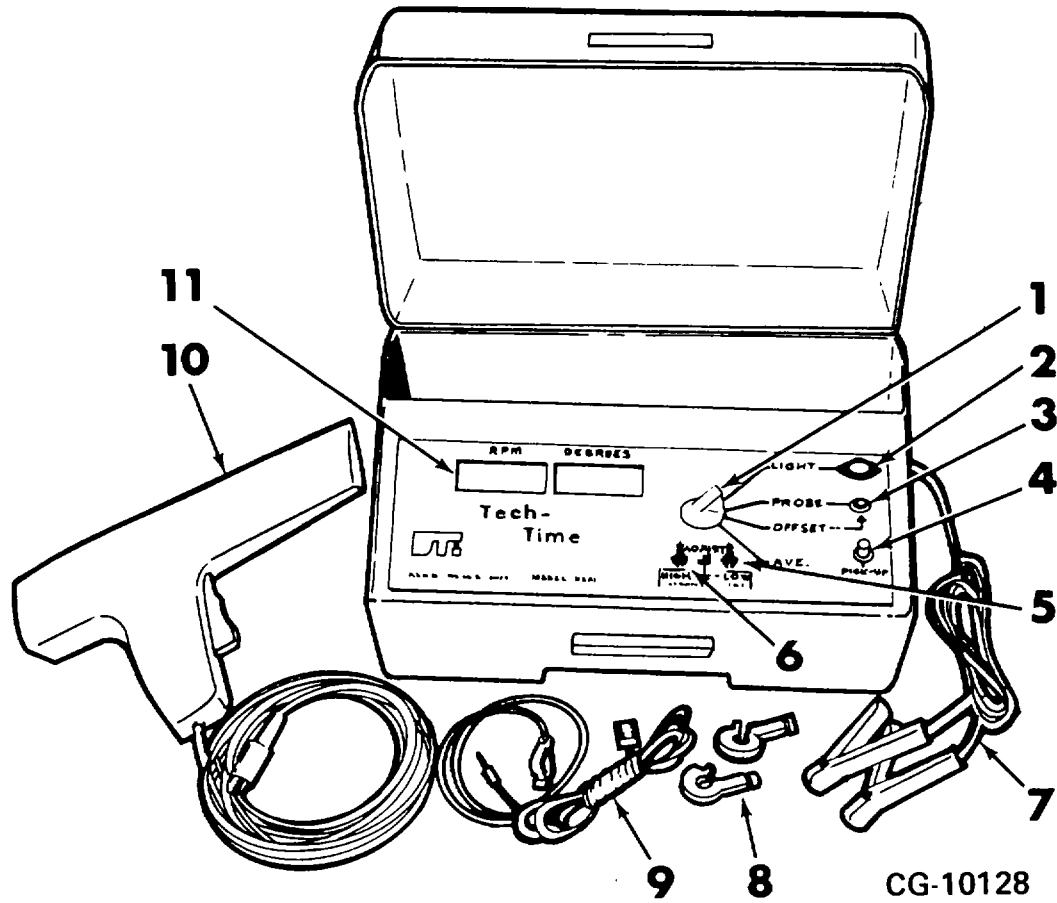
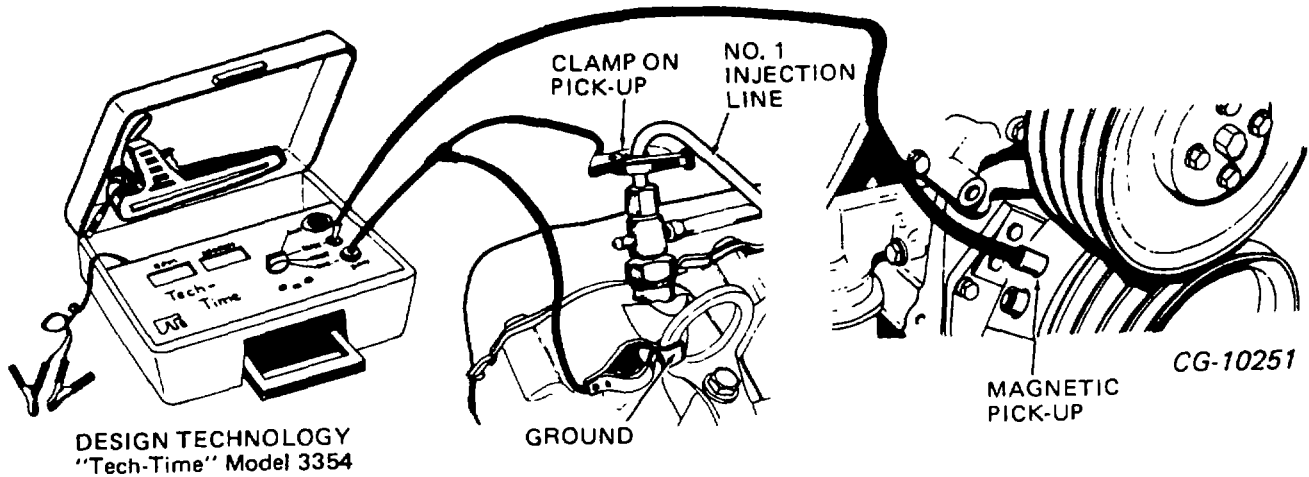

Figure 10. Design Technology "Tech Time" Model 3354 Components.
Figure 11. Design Technology Tech-Time Model 3354 Connections
DESCRIPTION OF FRONT PANEL AND ATTACHMENTS (All Reference Nos. refer to Figure 10)
2. Clamp on the 1/4 in. transducer to the No. 1 fuel injection line (See Figure 11) at the injection nozzle end.
3. Connect ground clip from transducer to an appropriate ground as shown in Figure 11.
4. Connect transducer to timing unit PICK-UP (4, Figure 10) using transducer connecting cable (9, Figure 10).
5. Connect the POWER SOURCE CLIPS (7, Figure 10) to the vehicle battery terminals or 8 to 28 volt supply [red to "+", black to "-"] **OBSERVE POLARITY OR DAMAGE TO CABLES MAY RESULT!**
1. Connect the magnetic probe (Figure 11) to the timing unit by inserting plug into probe JACK (3, Figure 10).
2. Insert the magnetic probe into the magnetic pick-up access hole located on the engine (Figure 11).
3. Turn the Function Switch (1, Figure 10) to "OFFSET". With power applied to the timing unit, the DEGREE DISPLAY should light up and read "SET 20.0".